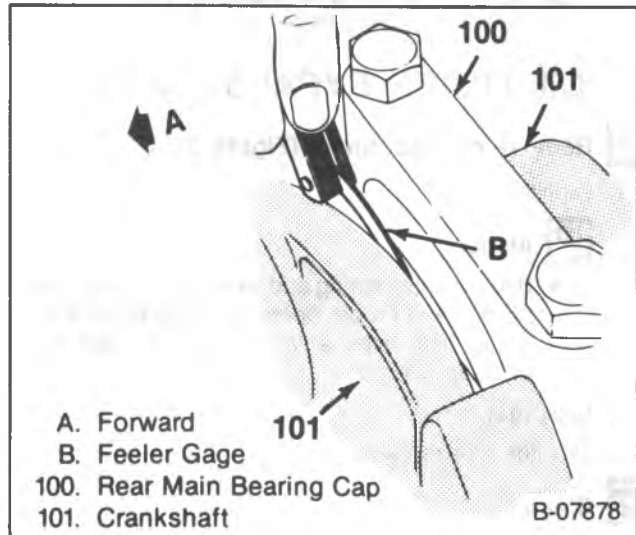

Figure 33 — Measuring Crankshaft End Play
- With the crankshaft forced forward, measure at the front end of the rear main bearing with a feeler gage (figure 33). The proper clearance is 0.002 to 0.006-inch.